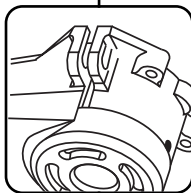

Fig.6
• Use Arbotech Machine Oil to **regularly** lubricate the cam. Squeeze a drop into the lubrication port every 15 minutes of operation. Arbotech Machine Oil is specifically designed for high pressure and temperature applications. (as shown in fig.6)